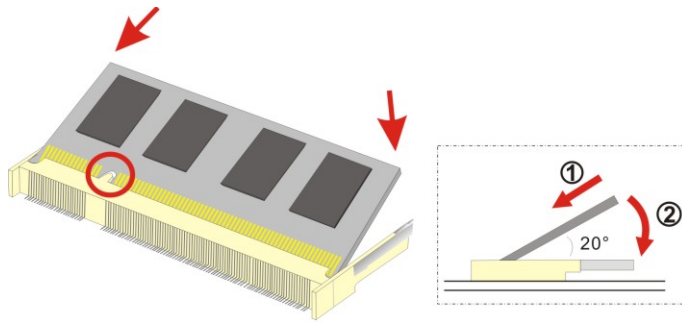

Figure 4-1: SO-DIMM Installation
To install a SO-DIMM, please follow the steps below and refer to **Figure 4-1**.
- Step 3:** **Insert the SO-DIMM**. Push the memory in at a 20° angle. (See **Figure 4-1**)
- Step 4:** **Seat the SO-DIMM**. Gently push downwards and the arms clip into place. (See **Figure 4-1**).